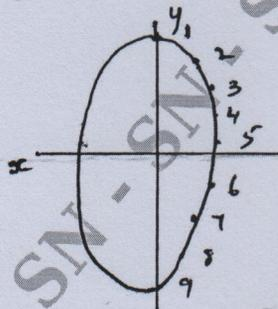

Fig.Q9
- 9 The fuselage of the section, the bending moment due to SCIF weight was 9.8 kNm and due to symmetrical pull out tail load 45.1 kNm down. The tail load may be assumed to be acting at 2 m away from the section. If the stringers are 16 in number and placed as shown in Fig.Q9, with areas of stringers placed symmetrical about yy axis. Calculate the stress in stringers. (16 Marks)